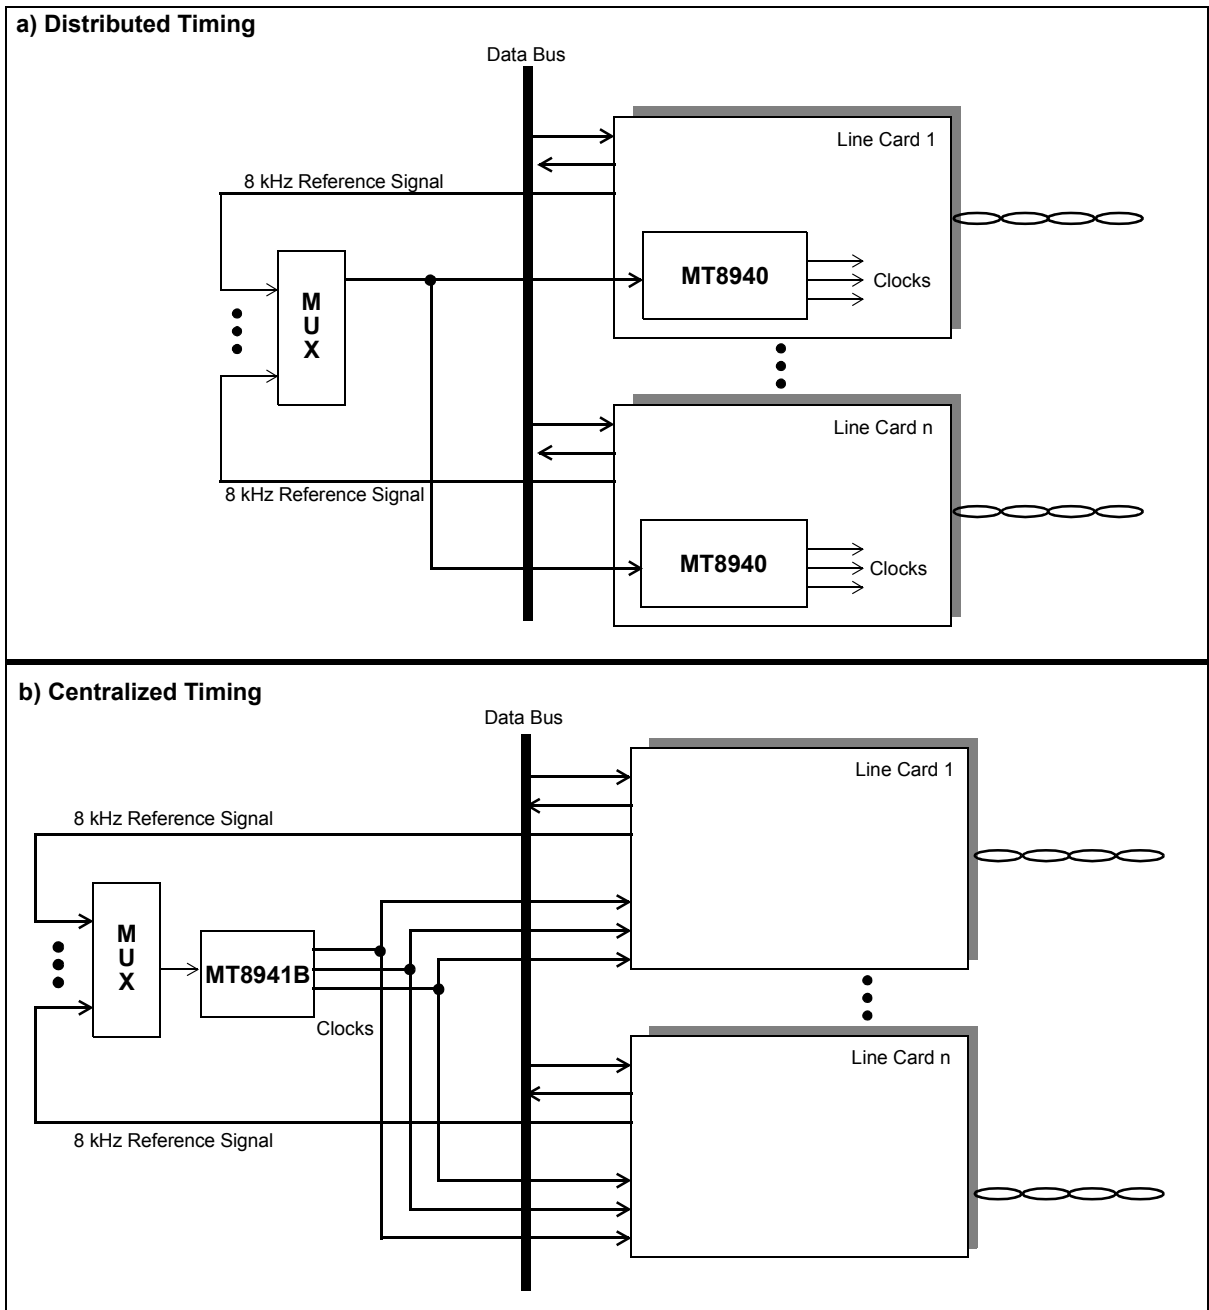

Figure 8 - Application Differences between the MT8940 and MT8941B
2. The MT8941B includes a no-correction window to filter out low frequency jitter and wander as illustrated in Figure 4. Consequently, there is no constant phase relationship between reference signal \overline{FO} of DPLL # 1 or C8Kb of DPLL #2 and the output clocks of DPLL #1 or DPLL #2. Figure 4 shows the new phase relationship between C8Kb and the DPLL #2 output clocks. Figure 8 illustrates an application where the MT8941B cannot replace the MT8940 and suggests an alternative solution.